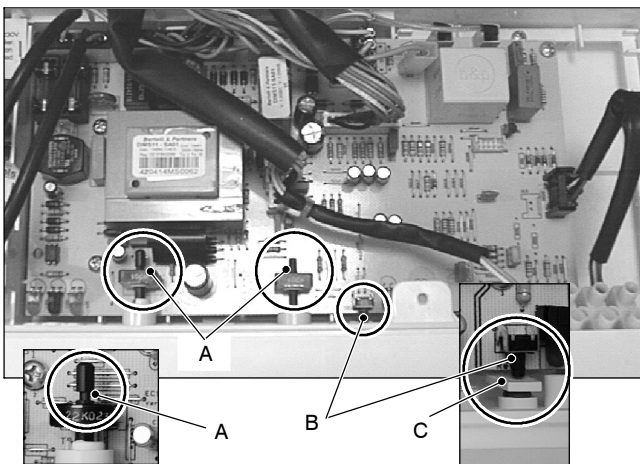

Fig. 49
- 8 Insert the spindles in the control panel knobs until the notch *A* (Fig. 49) reaches the potentiometer edge. It is not necessary to force them in the knob.
- 9 While tightening the screws that fix the Electronic control/ignition p.c.b. on the control panel, keep the p.c.b. towards the control panel fascia making sure of the contact between the boiler reset button *B* and the tab *C* (Fig. 49).